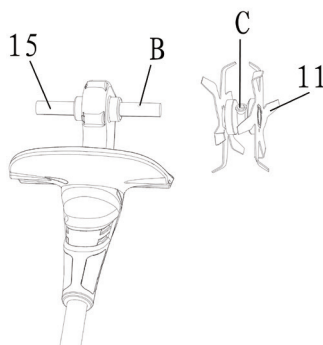

Fig.2
2. Install blade component 11 into rotating axis 15 in the direction of the arrow shown, and align hole B on rotating axis 15 with hole C on blade component 11. (Fig2)